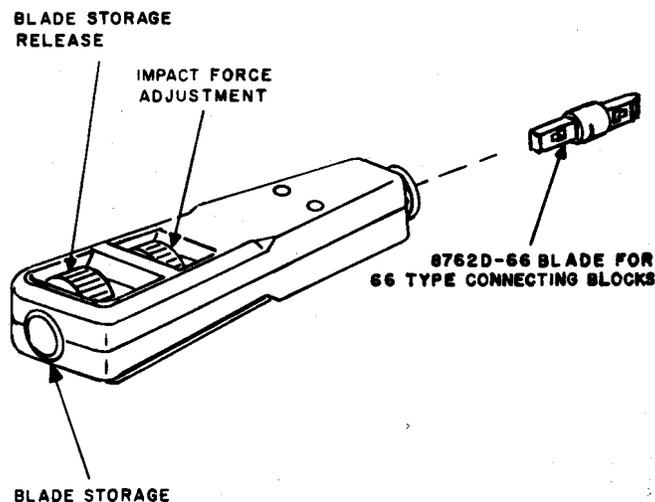
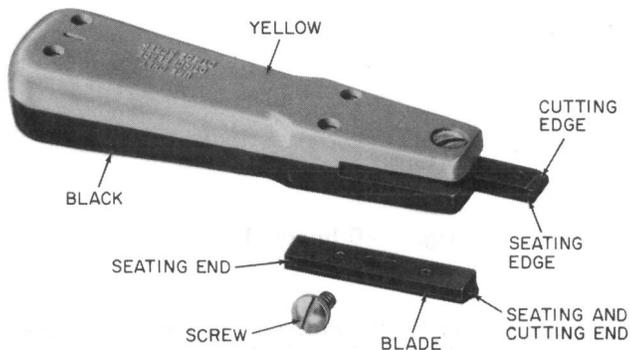
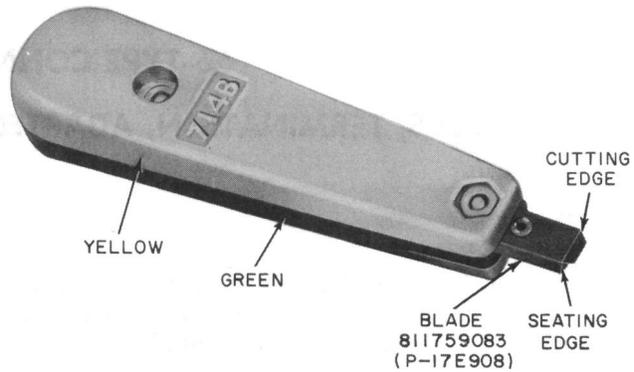

Fig. 1—D Impact Tool
Fig. 2—B Impact Tool (MD)
Fig. 3—714B Tool
2.01 The D impact tool (Fig. 1), the B impact tool (manufacture discontinued [MD]) (Fig. 2), and the 714B tool (Fig. 3) are used to make terminations on 66-type connecting blocks. The D impact tool is recommended for use in installations where numerous cutdowns are required. The 714B is intended for occasional or intermittent use.
2.02 The D impact tool (Fig. 1) consists of a handle with a switchable dual force impact mechanism, a blade release switch, and a cavity for storing a spare blade. The handle is designed to accept three different type blades, one of which is the 8762D-66 blade designed for use with the 66-type connecting block.
B. B Impact Tool (MD)
2.08 The B impact tool (MD) (Fig. 2) consists of a reversible steel blade attached by a single screw to a plastic handle. One end of the blade is used for seating and cutting conductors while the other end is used for seating only. A spring mechanism inside the handle controls the amount of force the installer must exert to terminate and cut wires.
2.11 The 714B (Fig. 3) is similar to the B impact tool (MD) except that it does not have an adjustable impact mechanism and is yellow and green instead of yellow and black.